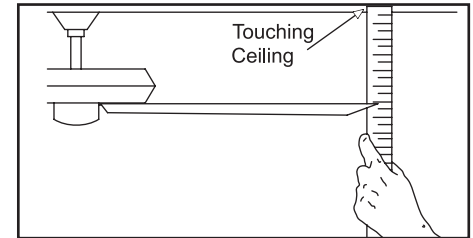

Figure 12
2. Most fan wobble problems are caused when blade levels are unequal. Check this level by selecting a point on the ceiling above the tip of one of the blades. Measure from a point on the center of each blade to the point on the ceiling. Measure this distance as shown in Figure 12. Repeat for each blade. Measurements deviation should be within 1/8". Run the fan for 10 minutes.